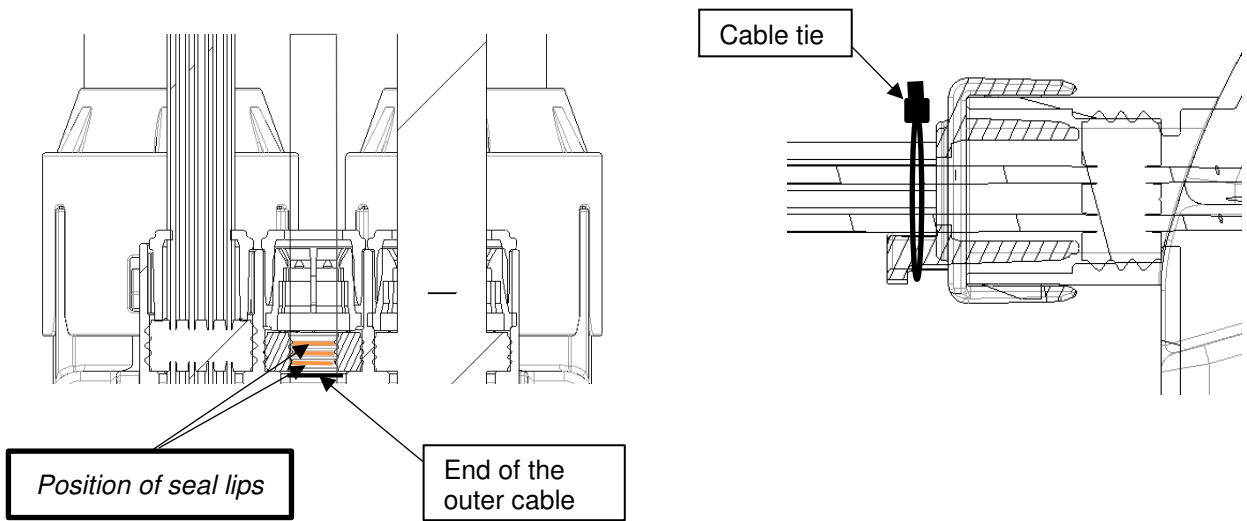

Figure 36a – AC seal lips
**ATTENTION:** Ensure that the AC cable is well positioned in the SEAL, that all seal lips are safely placed on the outer isolation of the cables. (Figure 36a)
Push the AC, PE and SIGNAL COVER over it and snap it on the CABLE EXIT COVER WITHOUT AC 2390858-1 OR WITH AC 2390858-2. Ensure that both hooks are correctly engaged (double audible click), see Figure 36a.
Place a CABLE TIE, (Black, 2.5 mm wide, 1mm thick, 100mm long, min. tensile strength: 80N) around the single wire signal cables and the bridge at the SIGNAL COVER and pull tight, see Figure 36a.